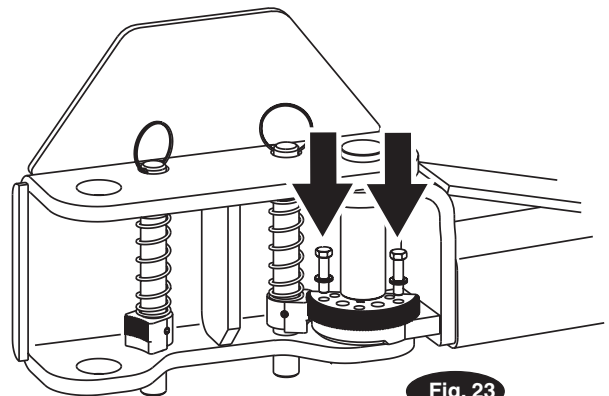

Fig. 23
Then, install the (2) 3/8"-16NC x 1-1/2" HHCS (8 total for all 4 arms) and 3/8" Spring Lock Washers into the gear and arm, but do not tighten. Reference Fig. 23, Fig. 24a, and Fig. 24b.